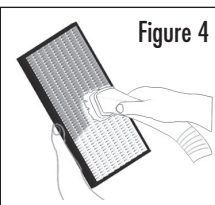

Figure 4
4. To clean the HEPA-type permanent filter, remove the dirty filter. Using your vacuum cleaner, run the brush attachment along both sides of the filter and clean between the pleated layers (Figure 4). After cleaning, reinstall the cleaned HEPA-type permanent filter back into the unit.